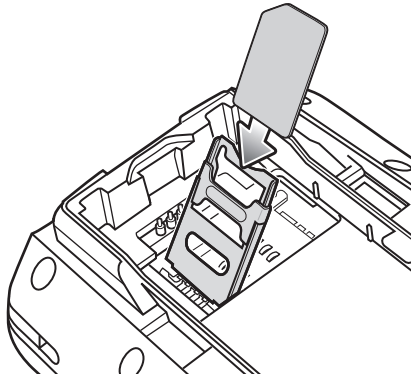

Figure 1-4 *Inserting the SIM Card*
3. Insert the SIM card, as shown in Figure 1-4, with the cut edge of the card facing out and the contacts facing down.